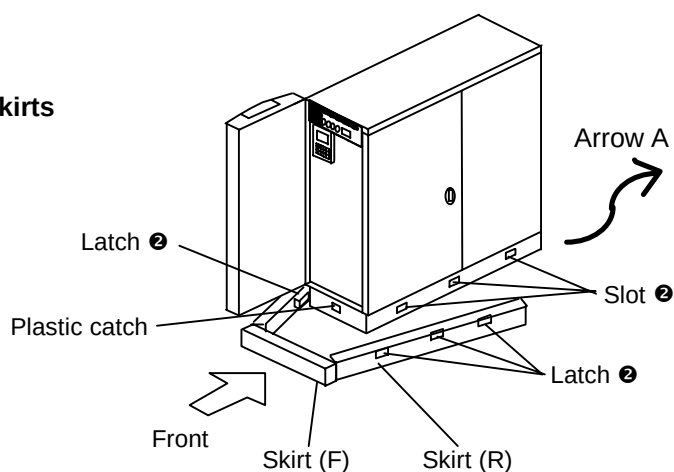

Figure 3.2.7 Fitting the Combined Skirts
- ⑤ Attach the combined skirts (F), (R) and (L) to the bottom of the unit by fitting them from the front of the unit (as shown by an arrow A) with the skirts (R) and (L) being spread out a little. Then make the latches **2** of the skirts (R) and (L) be engaged with the slots **2** of the unit frame. (See Figure 3.2.7.)